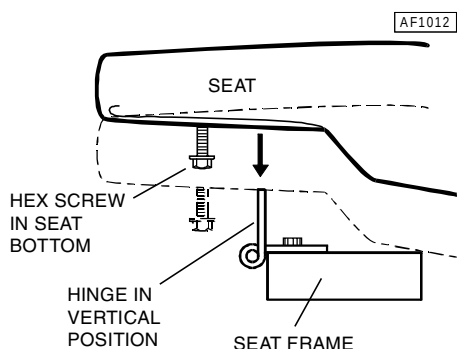

**Figure 9**
4. Turn the two hinges up into a vertical position. Lower the seat onto the chair with the seat resting on the hinges (See Figure 9).